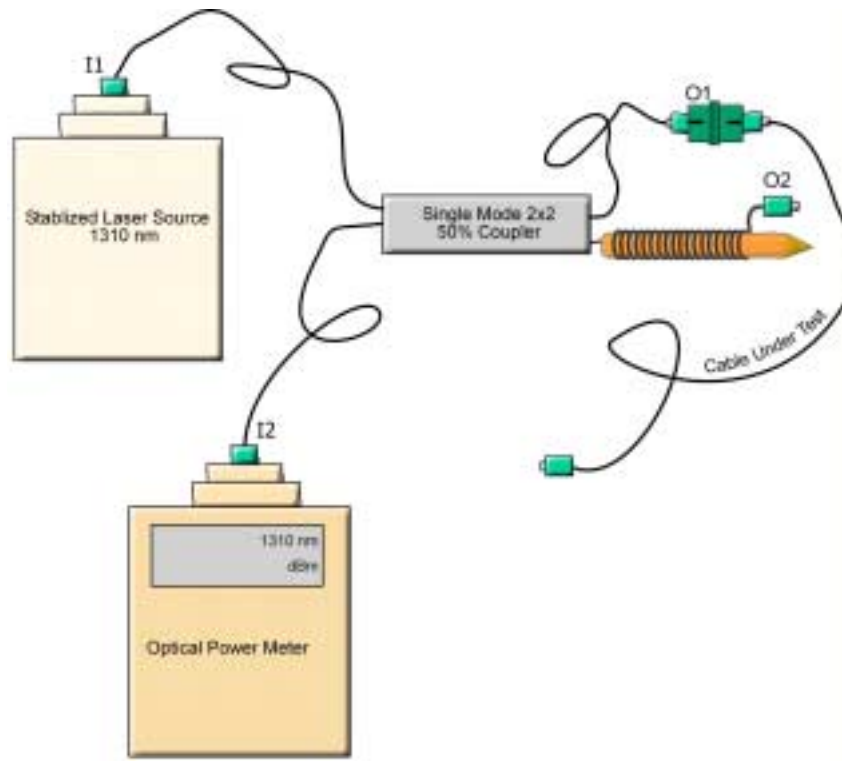

Figure 5-5. Test Procedure Connections
6. Connect the laser to port **I1** of the coupler as shown in Figure 5-5.
7. Connect the Power Meter to port **I2** of the coupler as shown in Figure 5-5.